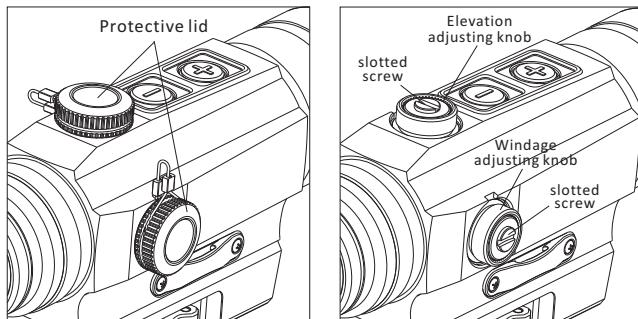

Fig 6
1. On top of sight is the elevation adjusting knob, windage adjusting knob is on the right side (see Fig6) The sight has been primarily adjusted in factory.
2. First open the protective lid (see Fig6), position slot type screwdriver on the slotted screw, then rotate the screw to right or left for adjustment. Each left or right click is for one shift moving equivalent to 0.5MOA value.